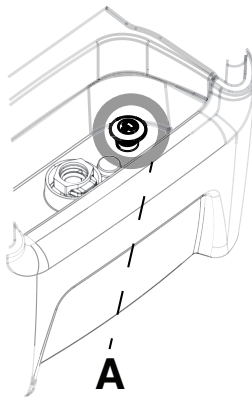

Figure 37 – Drain plug
21. Pull up on the controller drain plug (Figure 37) to open the drain.